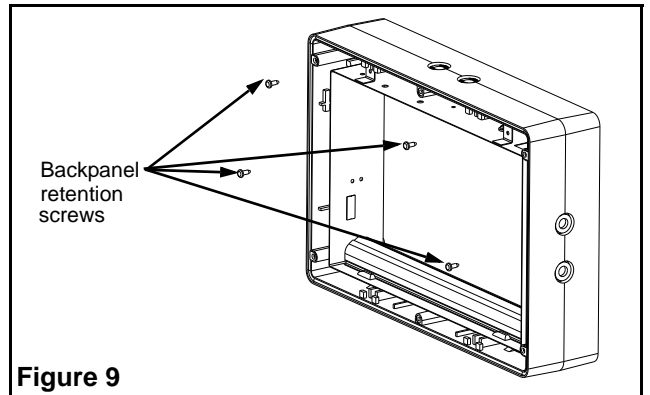

Figure 9
3. Install the four back panel retention screws (see Figure 9)